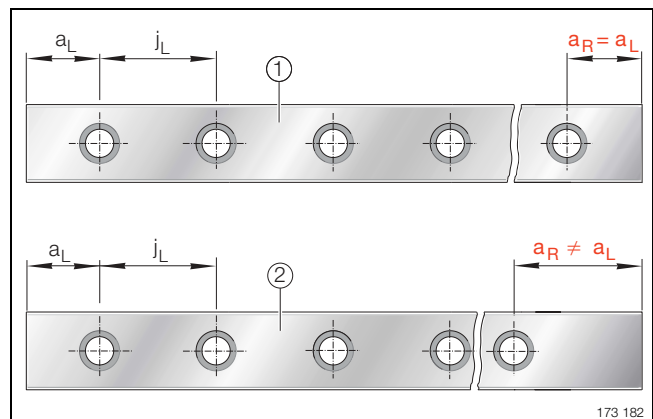

Figure 4 · Symmetrical ① and asymmetrical ② hole patterns for guideways with one row of holes
- $a_L \geq a_{Lmin}$ and $a_R \geq a_{Rmin}$ (Figure 4).